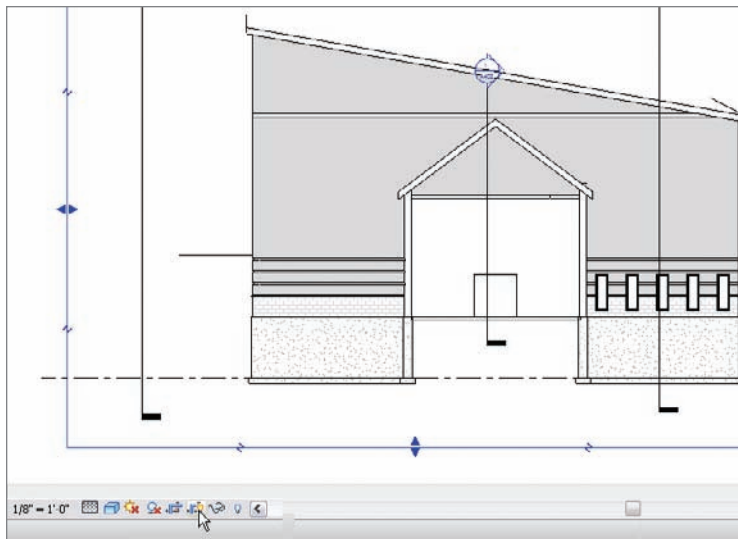

FIGURE 16.38 Turning on the crop region and adjusting the line
2. In the West Corridor Section view, turn on the crop region, as shown in Figure 16.38.